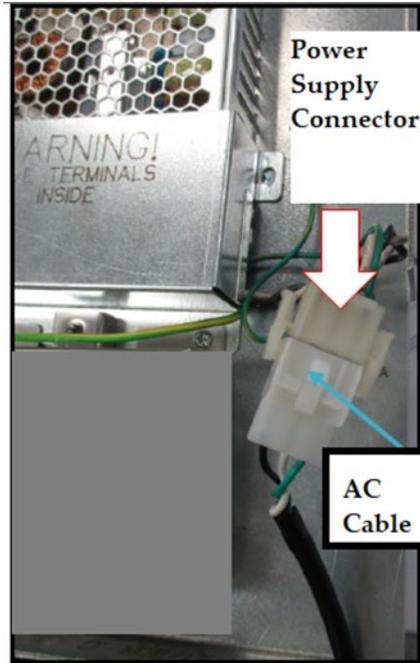

Figure 127
11) Disconnect the AC power cable that is attached to the power supply connector without the Invenco Link attached. See Figure 127 below.